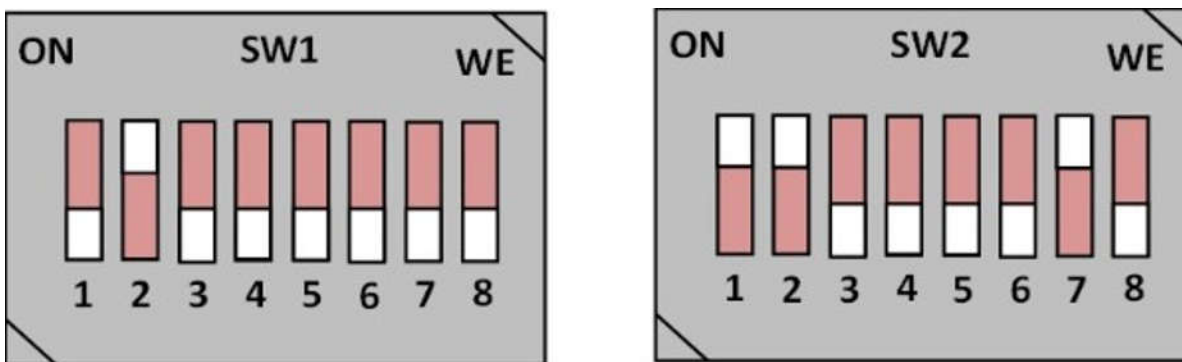

Figure 2-4. Example Boot Mode (MMCSD Boot)
1. Place the EVM boot switch selectors (SW1, SW2) into selected boot mode. Example boot mode for SD card is shown in Figure 2-4.